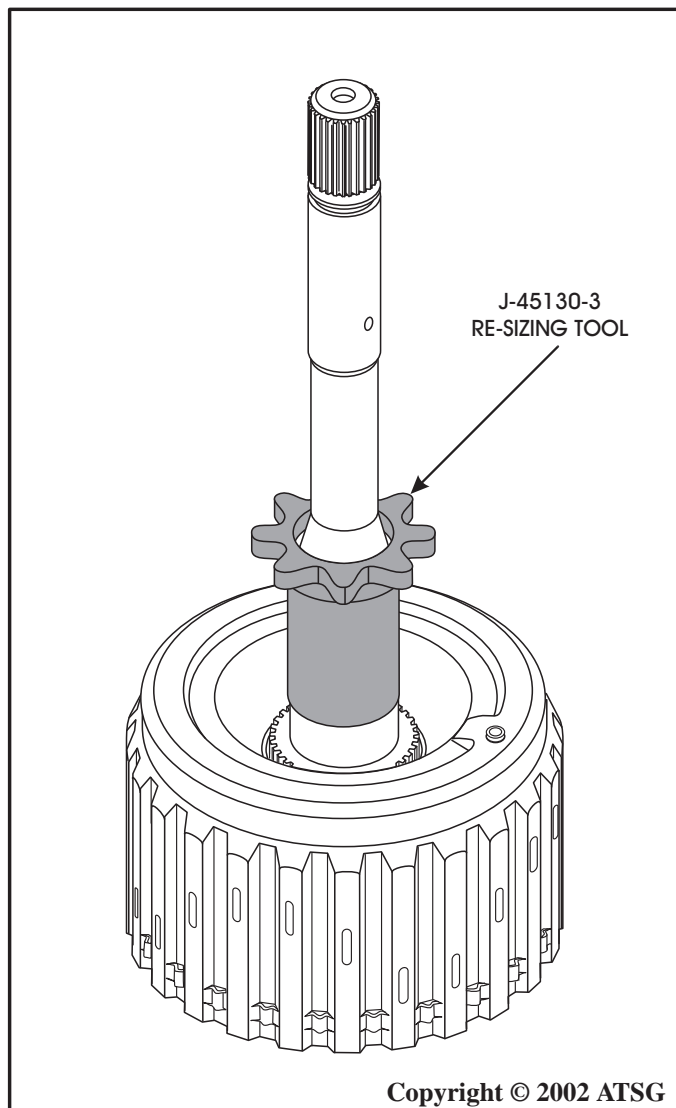

Figure 97
40. Install the J-45130-3 re-sizing tool, as shown in Figure 97.